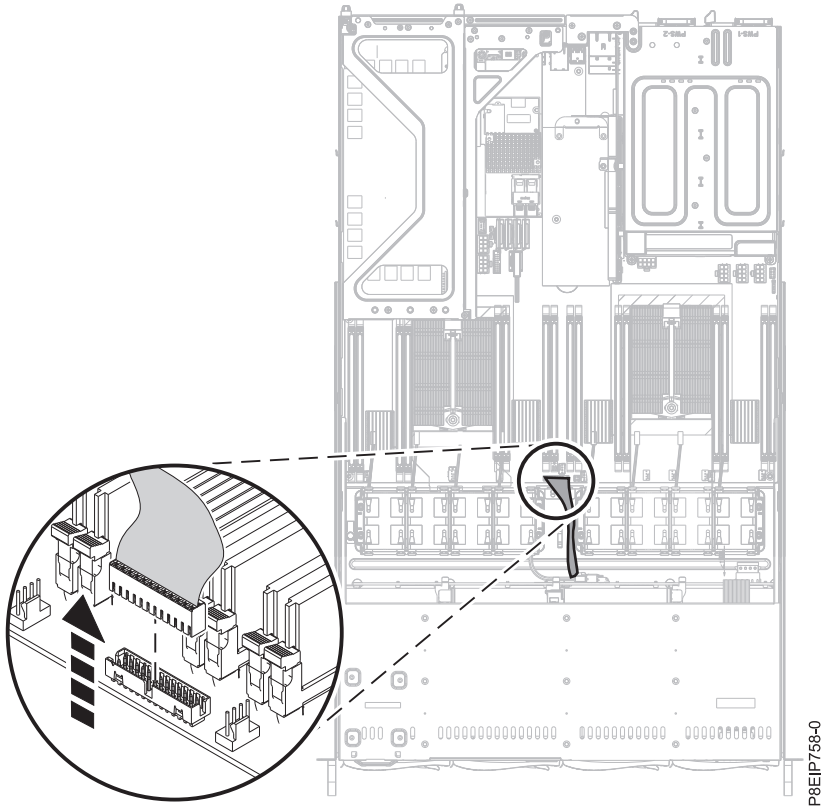

Figure 31. Removing the operator panel cable
10. Remove the operator panel cable from the system backplane as shown in Figure 31 on page 32.